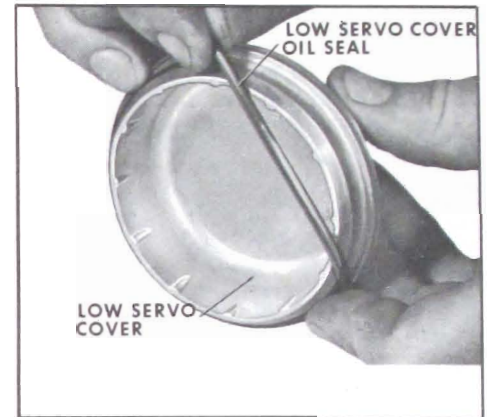

Figure 5-311
2. Install low servo cover oil seal. See Figure 5-311.